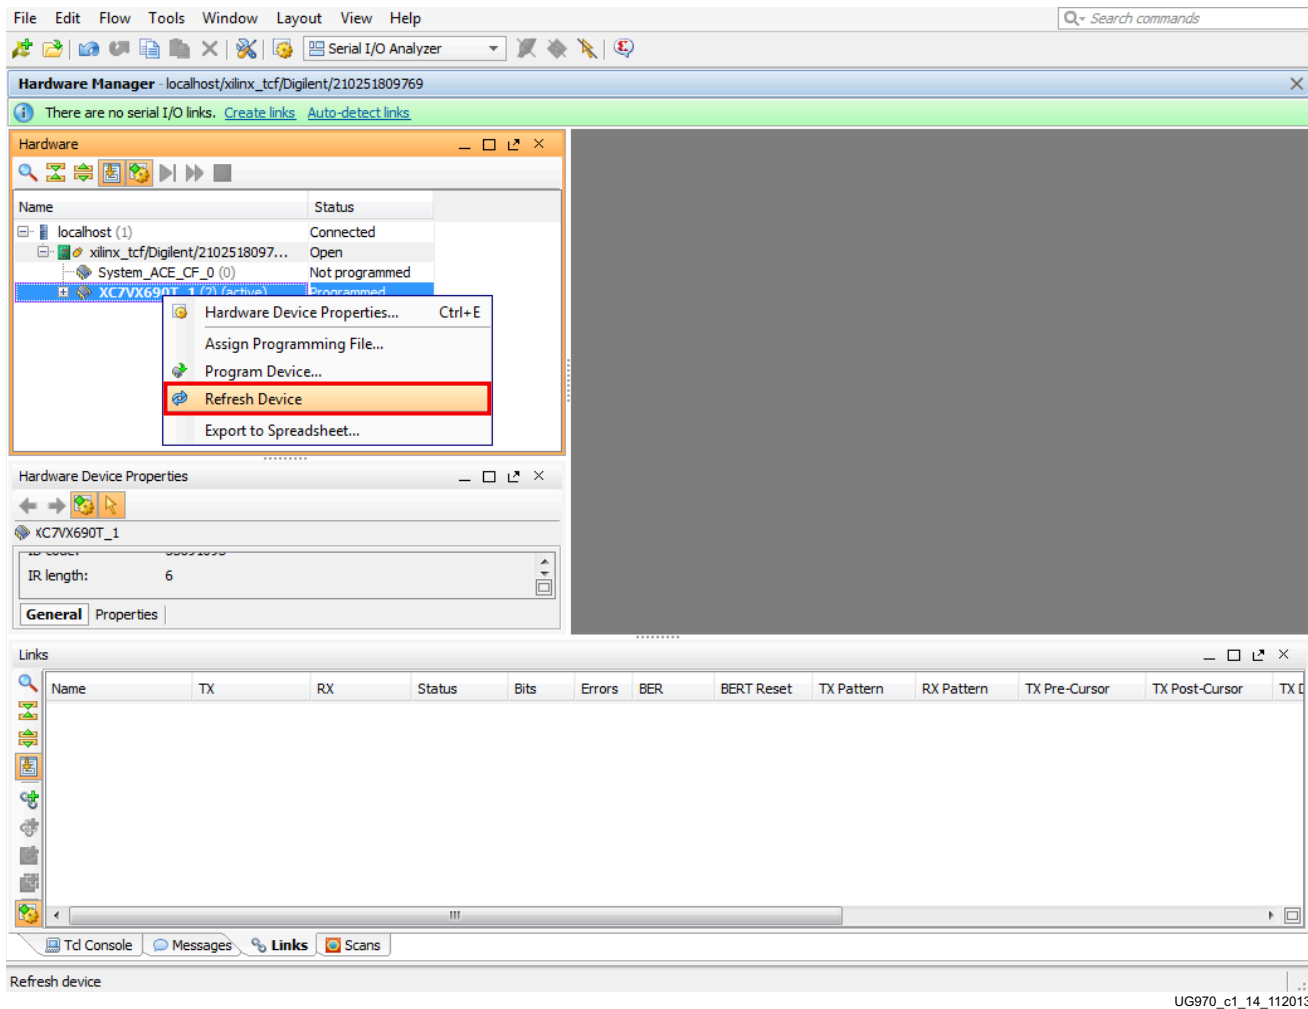

Figure 1-14: Refresh Device
2. In the Hardware window, right-click **XC7VX690T\_1** and select **Refresh Device** (Figure 1-14).